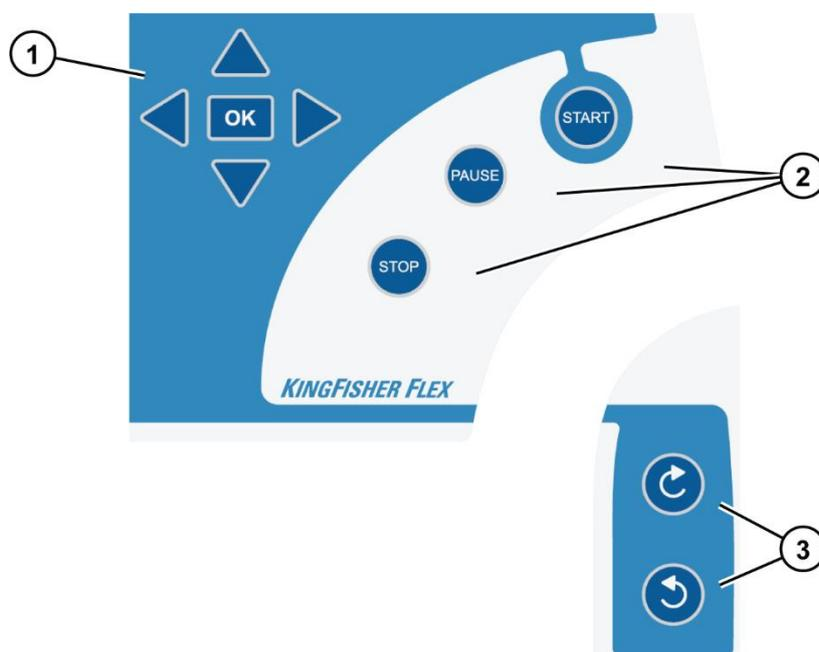

Figure 32. Keypad of the KingFisher Flex
**Keypad** The keypad is shown in Figure 32.